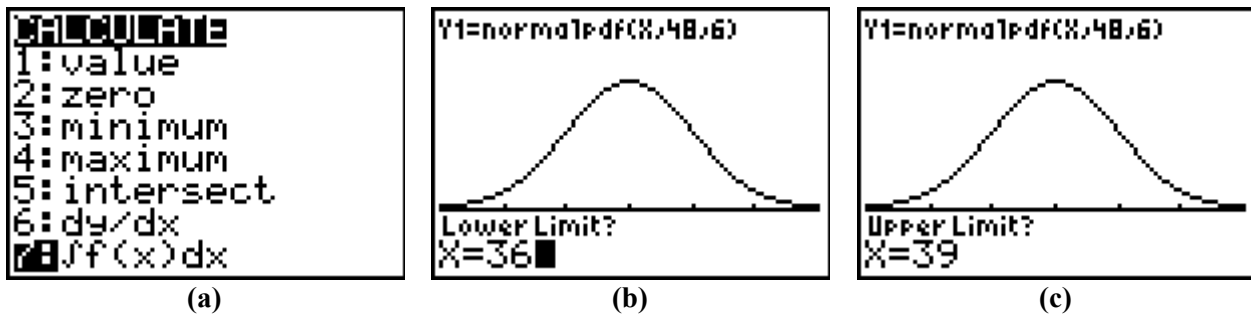

Figure 15.2.6: Alex’s calculator steps to find a probability graphically
- (c) entered the upper limit, 39. Figure 15.2.6 shows Alex’s calculator screens for these steps.